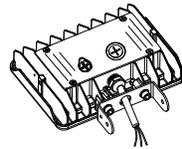

Figure 2-2
- Fix the **Trunnion Bracket Part A** to the fixture with **Pivot Bolts**. (Figure 2-2)